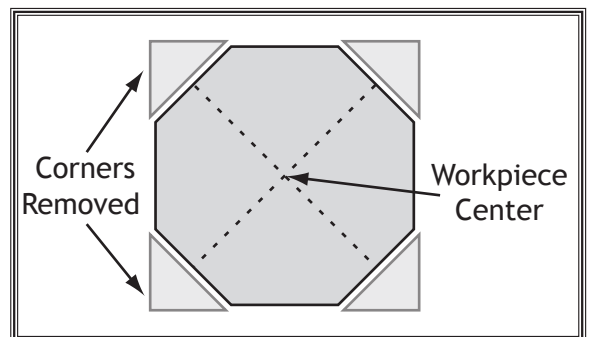

Figure 26. Corners of workpiece removed.
5. If your workpiece is over 2" x 2", cut corners off workpiece lengthwise to make turning safer and easier (see **Figure 26**).